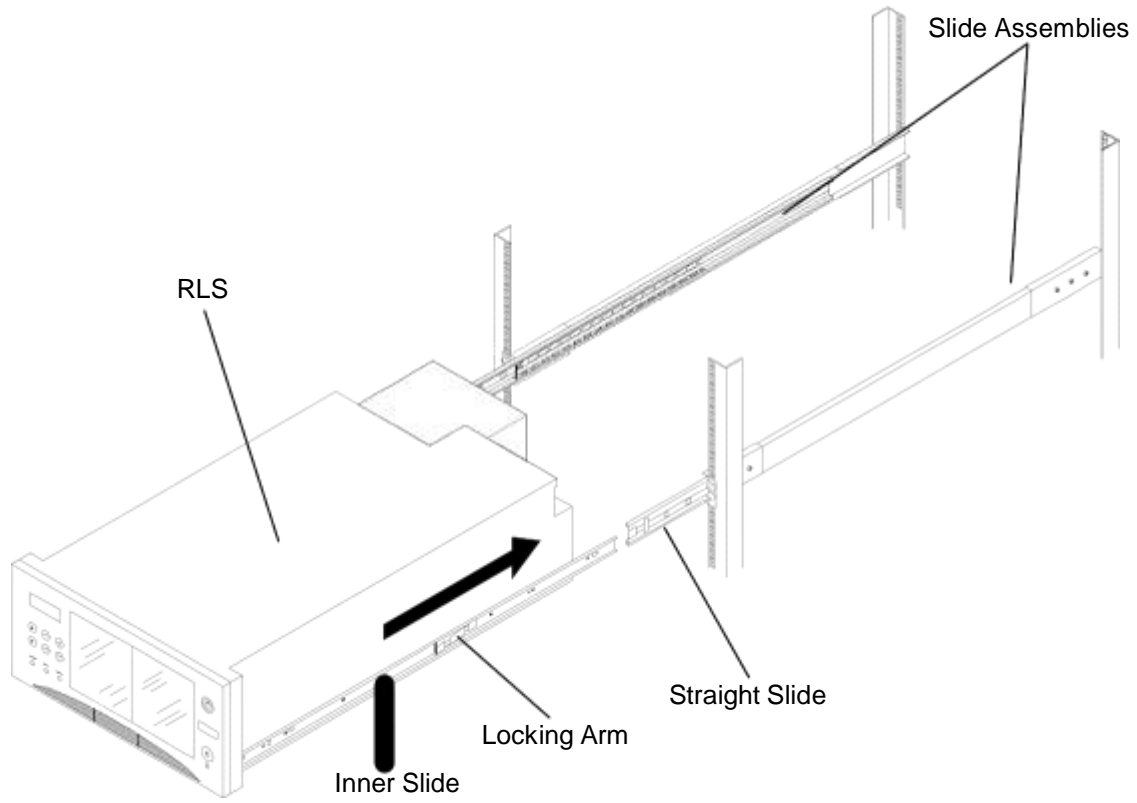

Figure 5-26 Library in Position to be Attached to the Slide Assemblies
3. Have two or more people lift the library, fit the inner slides into the straight slide portion of the slide assemblies, and then slide the inner slides to the locking arm positions. The library will not slide past the locking arm positions. Refer to Figure 5-26.